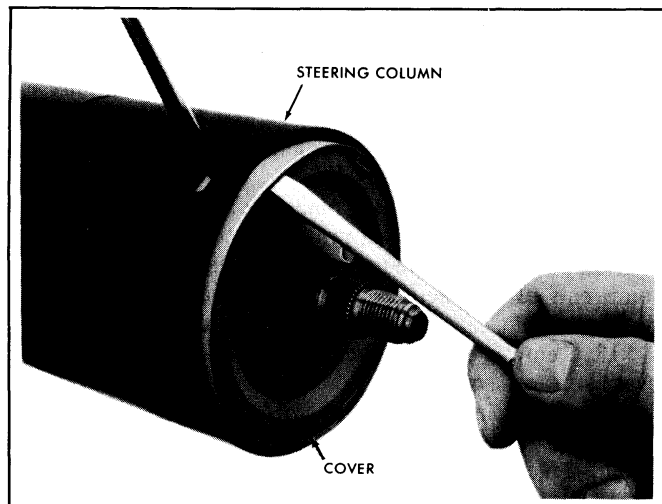

Fig. 3B-98--Removing Cover - Corvette
10. Remove two screws, pivot arm and spacer (Fig. 3B-100).